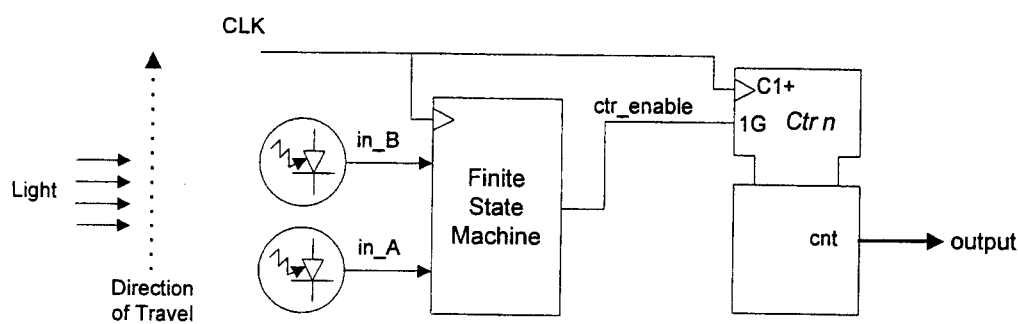
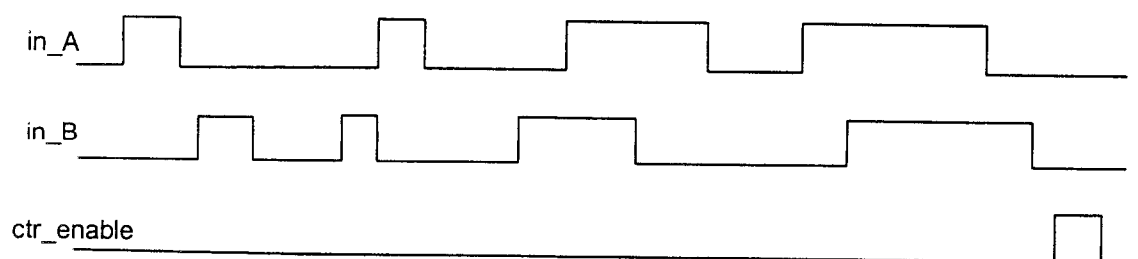

Figure 5.1
Figure 5.2
5. Figure 5.1 shows an electronic system that counts the number of people entering a building using interruption of light on sensors A and B. The outputs of the sensors,  $in\_A$  and  $in\_B$  are high when the sensors are obscured. Two sensors are used to ensure that glitches on either  $in\_A$  and  $in\_B$  are ignored. This prevents a person dithering at the door from being counted more than once. The two sensors signals  $in\_A$  and  $in\_B$  are used to drive a finite state machine which generates a  $ctr\_enable$  signal to a synchronous up counter as shown in the timing diagram shown in Figure 5.2. The system should ignore people leaving the store. You may also assume that the door is narrow enough that people enter or leave singly and there is always a gap between them.